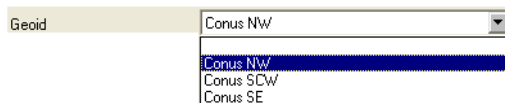

Figure 3-5. Select Geoid Model
6. Select the desired geoid model from the *Geoid* drop-down list, then click **OK** (Figure 3-5).